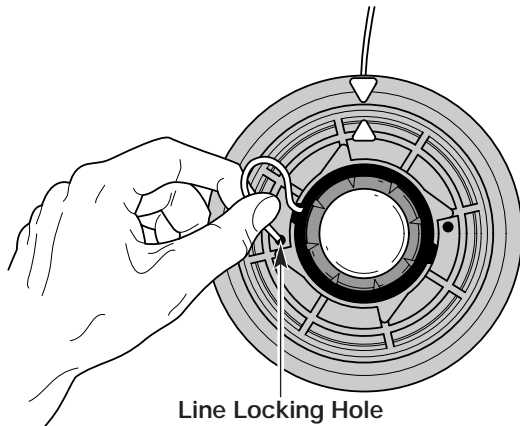

Fig. 42
5. Insert the line into the locking hole (Fig. 42). Do not push the line more than a 12.7 mm (1/2 inch) into the line locking hole. The line will form a small loop (Fig. 42) when it is inserted correctly.